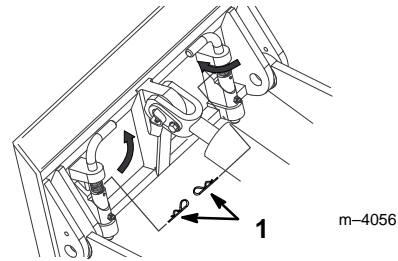

Figure 10
- When plowing long runs it is advisable to install two hairpin cotters through the spring and quick attach pins on the mount plate (Fig. 10). This will ensure that the vibration of the plow will not cause the pins to come loose.